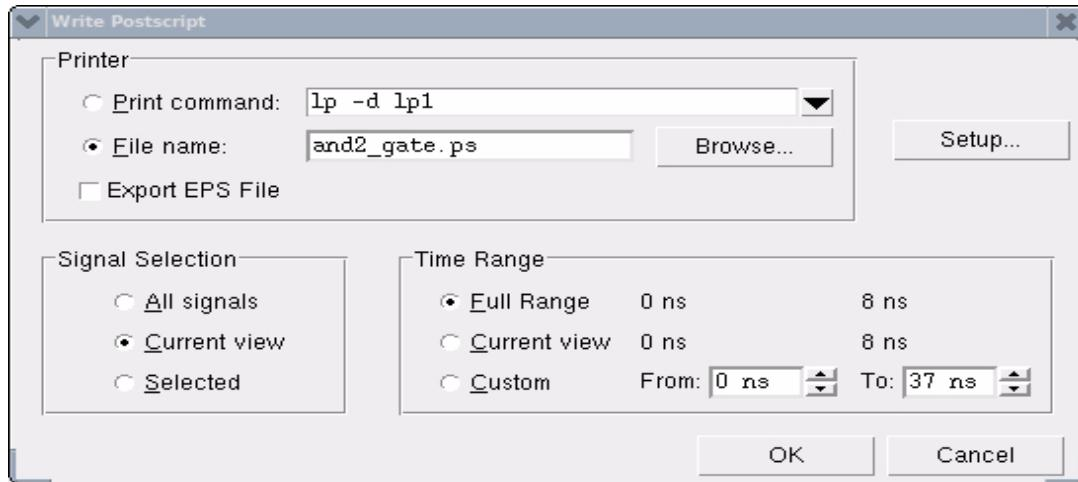

Figure 6: Setting the Print options.
- (6) To obtain a printout of the Wave window, select File -> Print Postscript. In the Write Postscript window, specify whether to print to a printer or to print to a file. One can also specify the time range to print. Select OK to generate the file. Refer to Figure 6 for the details of setting the various print options.